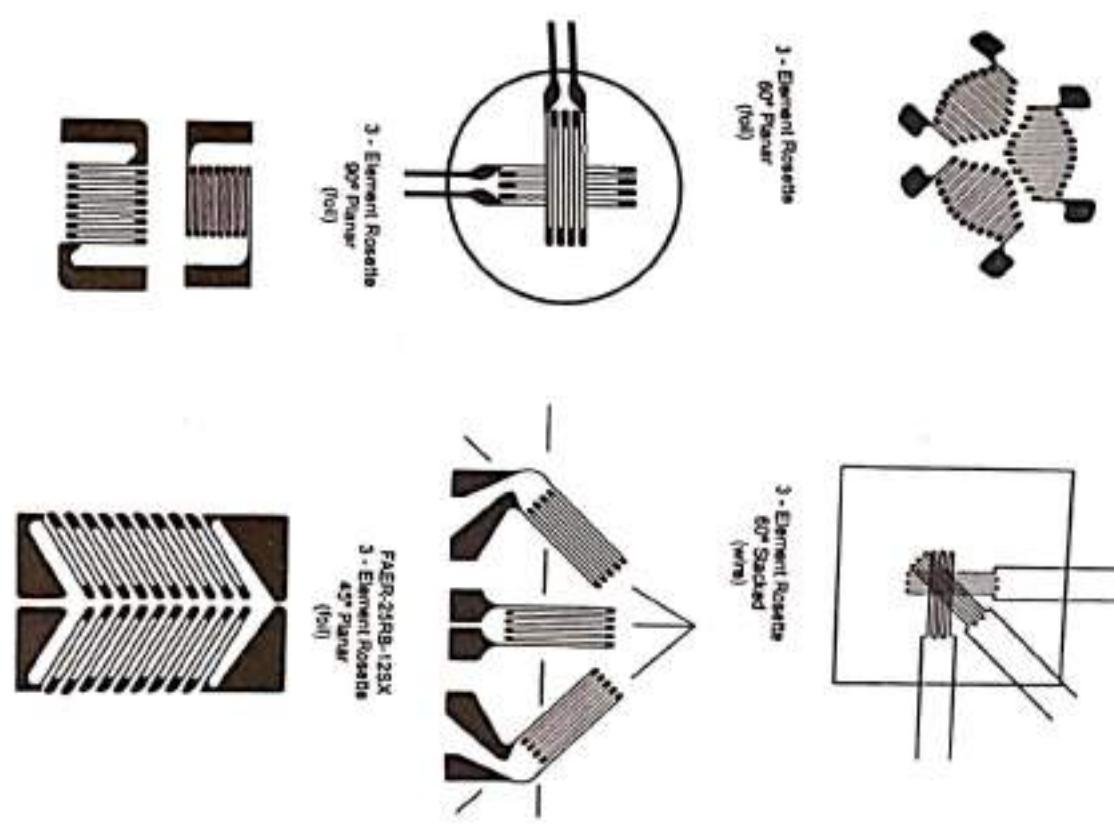

Fig. Q.50.1
- Three or four arm "rosette" gauges are most commonly used. To make the calculations easier, gauges are usually set with either 45 or 60 angles between them. Fig. Q.50.1 shows some forms of rosettes.